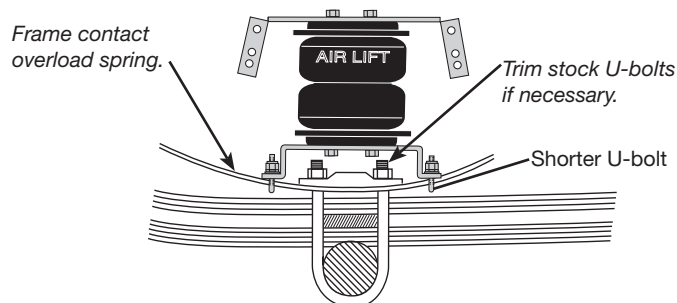

fig. 9
2. If the spacer is used, place the spacers legs down on the leaf spring and attach the lower bracket securely using the provided U-bolts, flat washers, and lock nuts. Torque nuts to 16 lb.-ft. (22Nm) (fig. 9).
Use shorter U-bolts when attaching to frame contact overload springs (fig. 9).